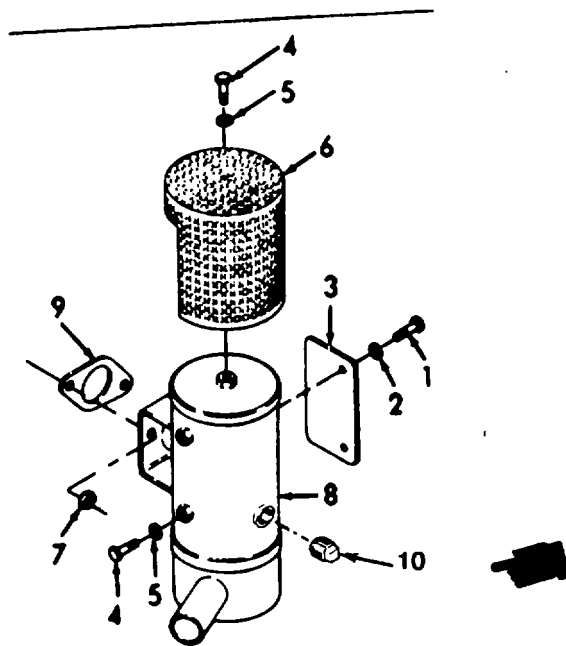

Figure 4-9. Muffler Removal/Installation.
- a. Removal. (Refer to figure 4-9).